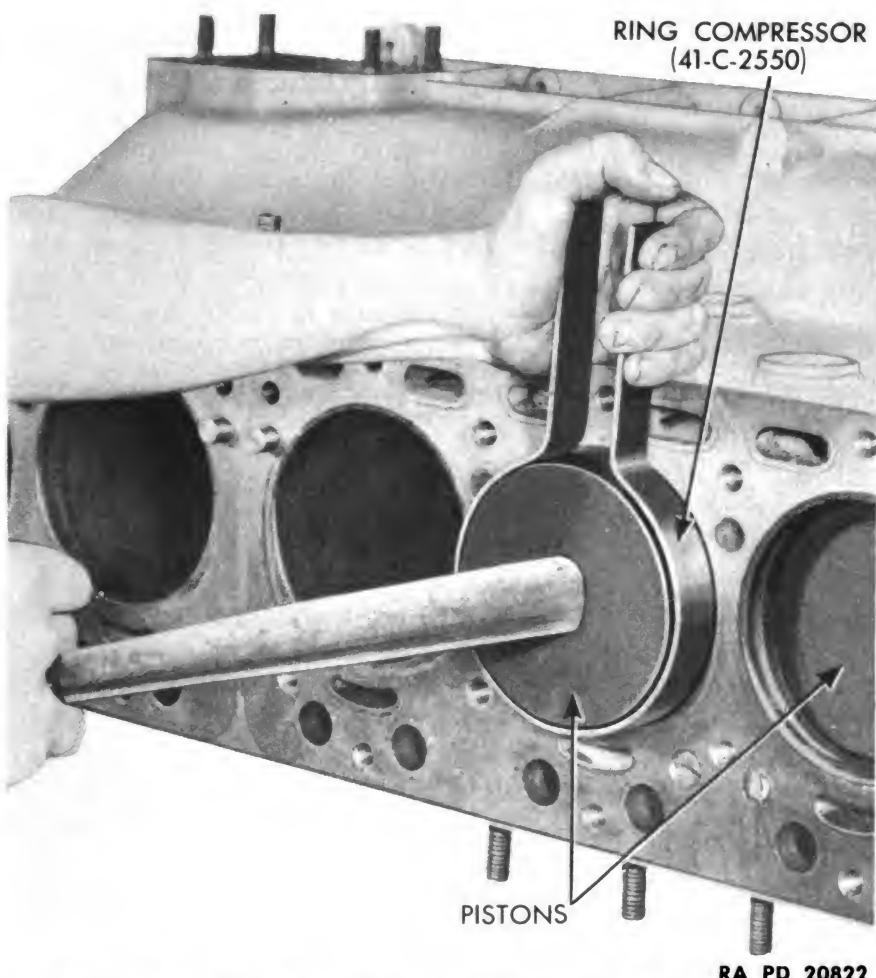
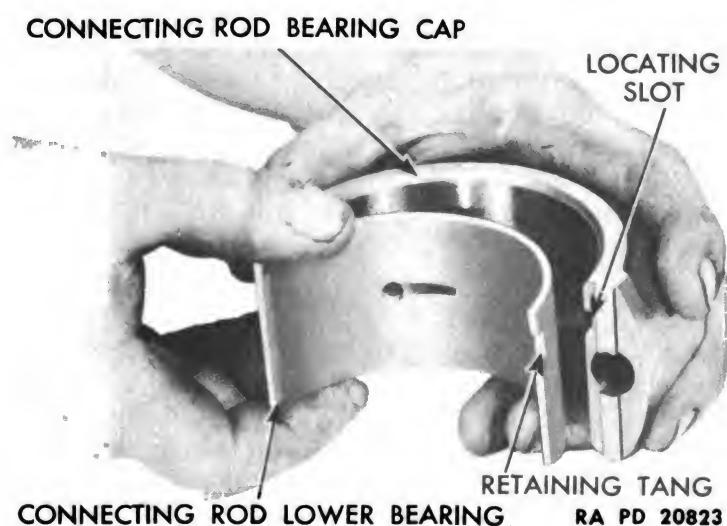

Figure 90 — Installing Piston and Connecting Rod Assembly Using Ring Compressor
Figure 91 — Installing Bearing in Connecting Rod Cap
l. Install Connecting Rods and Pistons. Mount engine on stand and rotate to horizontal position (fig. 90). Remove cap from No. 1 connecting rod, and install one-half of connecting rod bearing in rod, with retaining tang inserted in slot at parting line of rod. Space piston ring gaps about 90 degrees apart. Lubricate piston and rings with engine oil. Insert No. 1 connecting rod and piston into No. 1 bore, with numbered side of rod toward camshaft side of engine. *NOTE: Both rod and cap are stamped with cylinder bore number near the parting line. No. 1 bore is at the fan end.* Using a ring compressor (41-C-2550), tap piston into place with hammer handle (fig. 90), being careful not to nick cylinder bore or crankshaft journal with connecting rod. Install lower half of connecting rod bearing in connecting rod cap (fig. 91). Lubricate crankshaft journal, and assemble rod and cap (fig. 23). Tighten connecting rod bolt nuts with torque wrench to 100 to 110 foot-pounds, and lock with cotter pins. Install five other connecting rods and pistons in same manner.